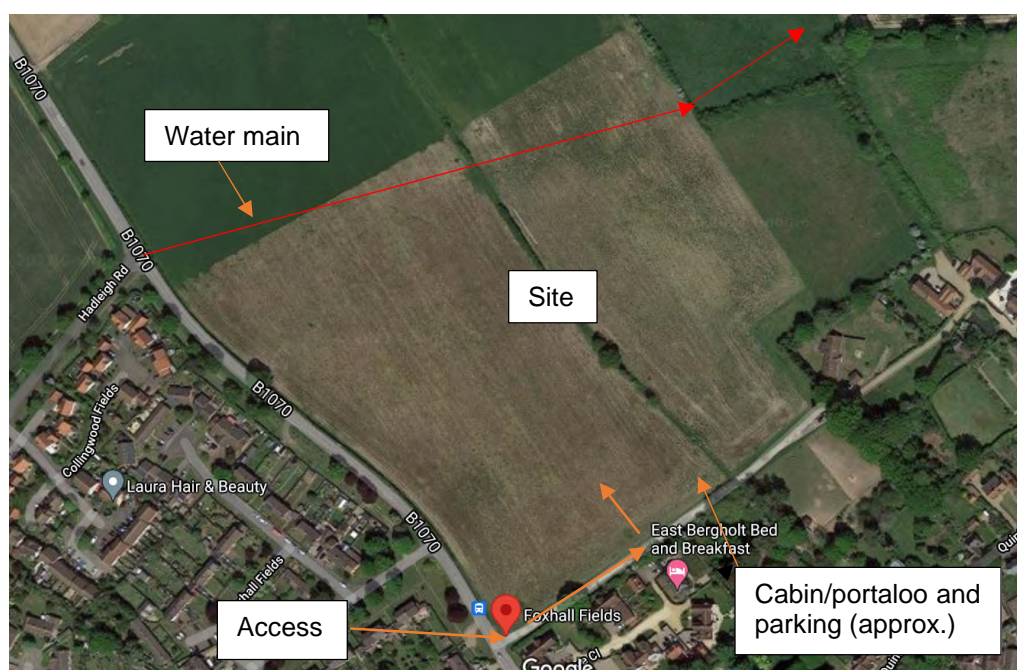

Fig. 1 Site location and access via Moores Lane, East Bergholt CO7 6QZ
- 1.3 PCA has been commissioned by RPS Group on behalf of their client to undertake an archaeological evaluation on land off Moores Lane, East Bergholt, Suffolk (Fig. 1). The proposed works will be located within two arable fields centred at TM 07238 35640. The works will follow the archaeological *Written Scheme of Investigation*, which has been approved by Suffolk County Council's Archaeological Service (SCCAS).
The proposed development site, which covers an area of 8.45ha, is located on the north-eastern outskirts of the village of East Bergholt, Suffolk, which lies c. 13km to the south-east of Ipswich city centre (Fig. 1). It comprises parts of two large arable fields bounded by Heath Road (B1070) to the south-west, Moore's Lane to the south-east and arable farmland to the north-west and north-east.
Site access for plant and welfare is via Moores Lane, East Bergholt CO7 6QZ (Fig. 1). Plant and welfare will be offloaded on the verge of the lane and plant will track across the fields to the trench locations.
Service information has been provided by the client, which shows that a watermain crosses the northern part of the site (see Fig. 1 and Appendix 2), The trenches have been positioned to avoid the water main, with an easement of 3m either side of the water main being established where no digging is permitted. There are no other known services within the site.